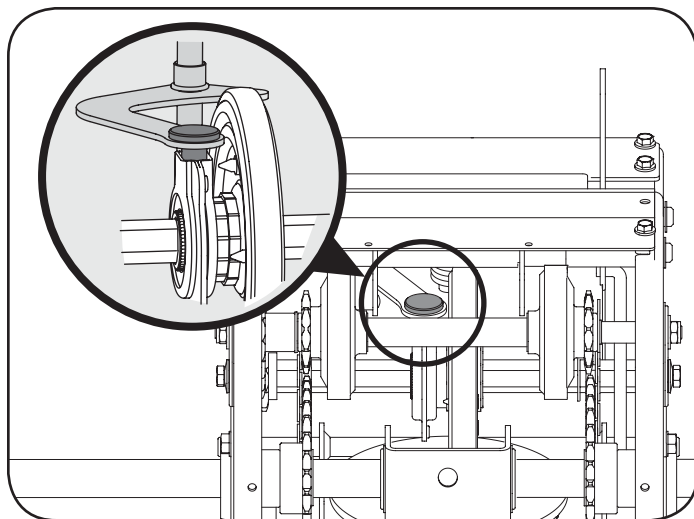

Figure 33
9. Insert the pin from the shift arm assembly into the friction wheel assembly and hold assembly in position. Refer to Figure 33.